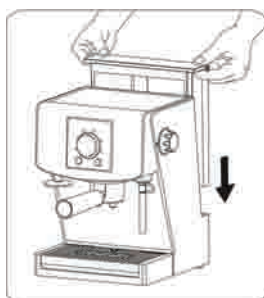

Fig. 14
- 13.24. Set the espresso machine upside down and put the filter grid again on the filter head (4) screwing the grid with the use of an appropriate screwdriver (Fig.14).